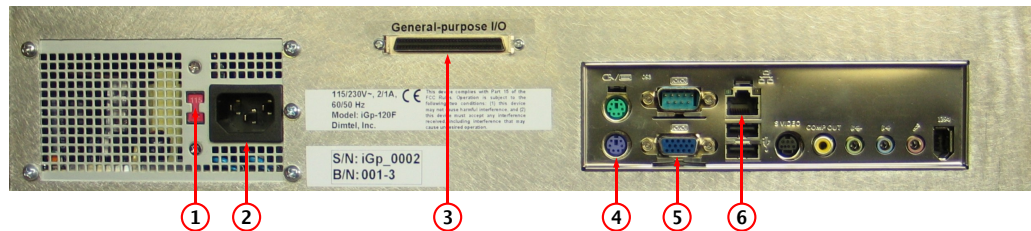

Figure 3: Rear panel features
WARNING: Before connecting power to the unit make sure the voltage selection switch (Fig. 3, item 1) is in the correct position (115 or 230 V).
1. Configure voltage selection switch (Fig. 3, item 1). Mains supply requirements for the iGp-64F are listed in Table 8;
7. Connect a PS/2 keyboard (Fig. 3, item 4);
8. Connect a video monitor (Fig. 3, item 5);
Setup program is included in the IOC for configuring the important features of the iGp-64F. The program can be executed locally or remotely. For local execution one must first connect a keyboard (Fig. 3, item 4) and a video monitor (Fig. 3, item 5) to the system. For remote setup, use `ssh` after system bootup to establish connection. In both setup methods the user must login as `root` (initial password is supplied with the system). If the newly received iGp-64F must be configured remotely (when, for example, a keyboard or a monitor is not available), such configuration can be performed using a dedicated network. Set up a network consisting of the iGp-64F, a network hub or a switch, and a remote computer. The iGp-64F is delivered with the following network configuration:
- Make sure no cable is connected to the general-purpose digital I/O port (Fig. 3, item 3);